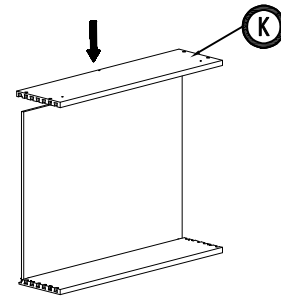

Figure 2
2. Install the drawer front into groove of drawer bottom, click into place (Figure 2)